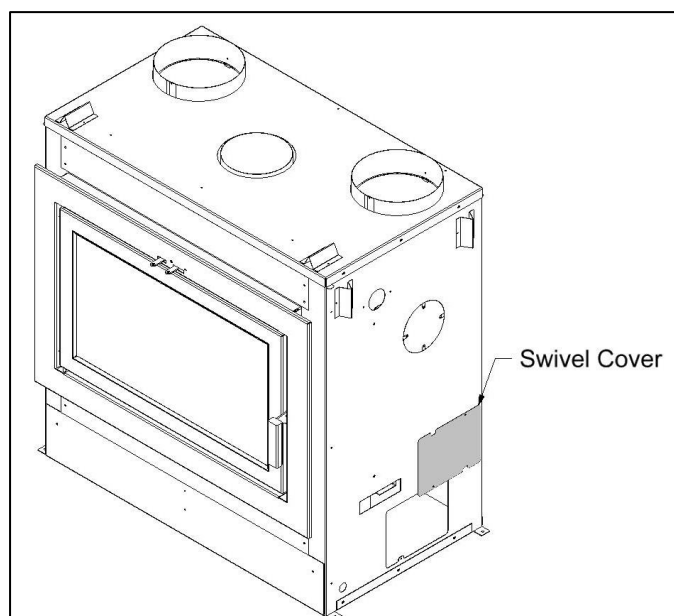

Figure 3-12: Intake Swivel Cover Kept Open for Clean Face Installations
6. Secure the Intake Swivel Covers on the bottom sides of the unit to the open position (Figure 3-12).
- The intake swivel covers at the bottom sides must remain open for all Clean Face installations. Refer to Figure 3-12.